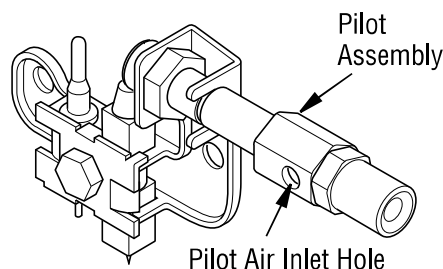

Figure 73 - Pilot Inlet Air Hole
6. In case any large clumps of dust have now been pushed into the burner repeat steps 3 and 4. Clean pilot assembly also. Additional cleaning may be needed for proper pilot operation based on use/lack of use. A yellow tip on the pilot flame may indicate dust and dirt in the pilot assembly. There is a small pilot air inlet hole about from where the pilot flame comes out of pilot assembly (see *Figure 73*). With unit off, lightly blow air through air inlet hole. You may blow through a drinking straw if compressed air is not available.